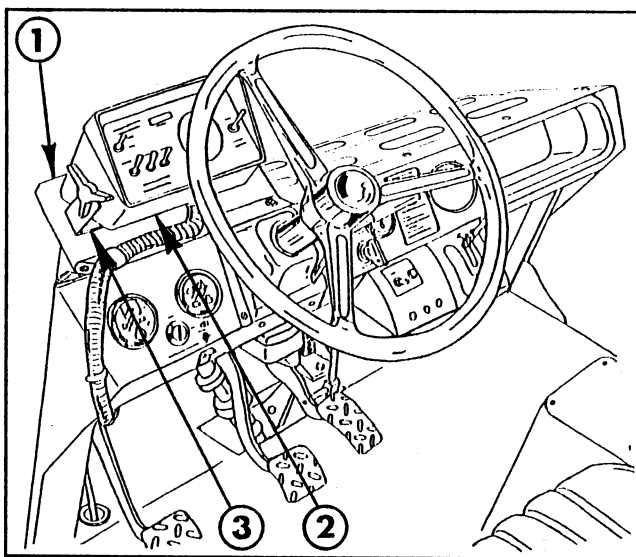

FIG. 5
15. Temporarily mount the console mounting bracket to the upper dash support using two of the earlier removed screws and washers (FIG. 5).
16. Using (2) 1/4" x 5/8" hex washer head screws, flat washers and nuts, secure the "U" shaped console bracket to the console mounting bracket. Mount the control console to the "U" shaped bracket using the (2) mounting knobs (FIG. 5).